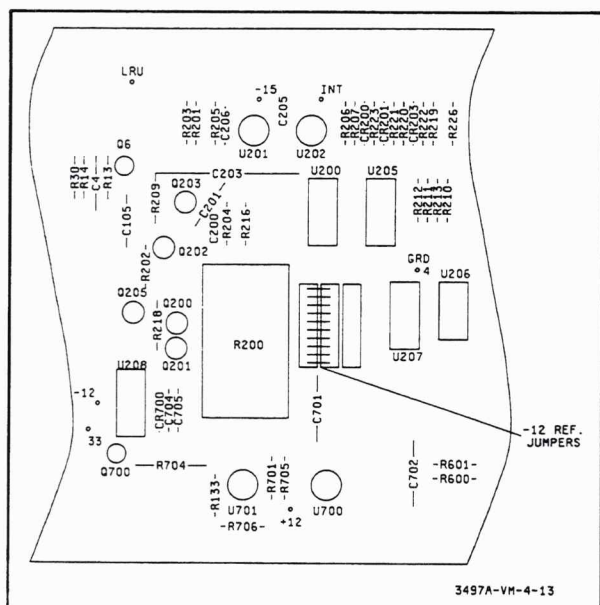
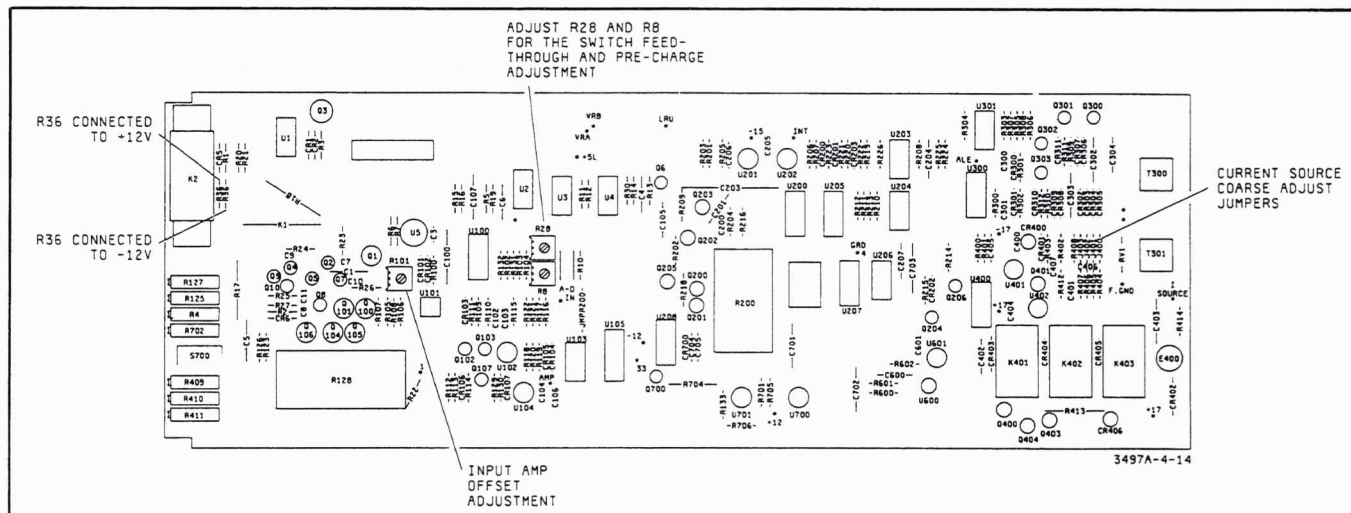

Figure 4-13. Reference Jumpers
Figure 4-14. Miscellaneous Voltmeter Option Adjustment Locations
- a. Locate the -12V Reference Jumpers (J700 to J707; see Figure 4-14). Place all jumpers to the left, as shown in Figure 4-13. Set switch S700 to position "6" and adjust pot R702 to its counter-clockwise position. (Refer to Figure 4-14 to determine the location of S700 and R702 on the voltmeter option board.)
- a. Refer to Figure 4-14 and locate R36. If there is no R36 mounted on the voltmeter board, continue with the next step. If R36 is mounted on the board, remove it. If a soldering iron was used to remove R36, give enough time for the circuitry to stabilize. Then continue with the next step.
1. If the offset is negative, connect resistor R36 to the -12V position, as shown in Figure 4-14.
2. If the offset is positive, connect resistor R36 to the $+12\text{V}$ position, as shown in Figure 4-14.
- a. Refer to Figure 4-14 and adjust R28 (Pre-charge adjust) to the center of its rotation.
- d. Refer to Figure 4-14 and adjust R8 until the voltmeter reading is 0.00000V. If any noise is noted, adjust R8 until the noise is centered around the zero volts reading.
b. Connect the test Digital Voltmeter between TP A-D IN (see Figure 4-14) and the LO COM terminal.
c. Refer to Figure 4-14 and adjust R101 for a $0V \pm 5$ microvolt reading on the test voltmeter.
a. Refer to Figure 4-14 and locate the four current source jumpers on the voltmeter board. Replace any jumpers that are missing.